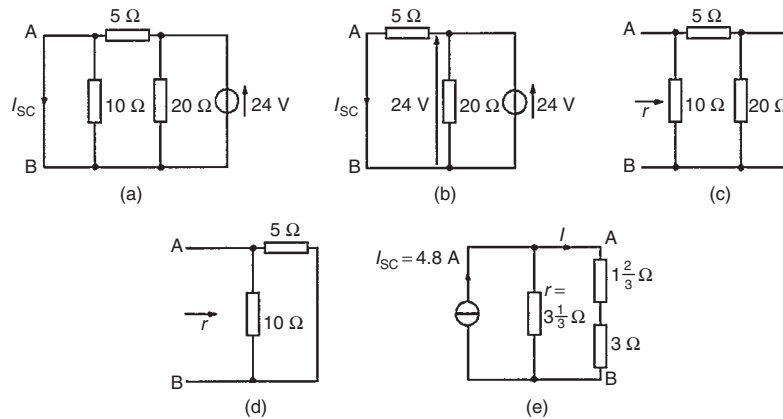

Figure 13.61
- (i) The branch containing the 3Ω resistance is short-circuited as shown in Fig. 13.61(a)
- (ii) From the equivalent circuit shown in Fig. 13.61(b),
- (iii) If the 24 V source of e.m.f. is removed the resistance 'looking-in' at a break made between A and B is obtained from Fig. 13.61(c) and its equivalent circuit shown in Fig. 13.61(d) and is given by:
- (iv) From the Norton equivalent network shown in Fig. 13.61(e) the current in the 3 Ω resistance is given by: